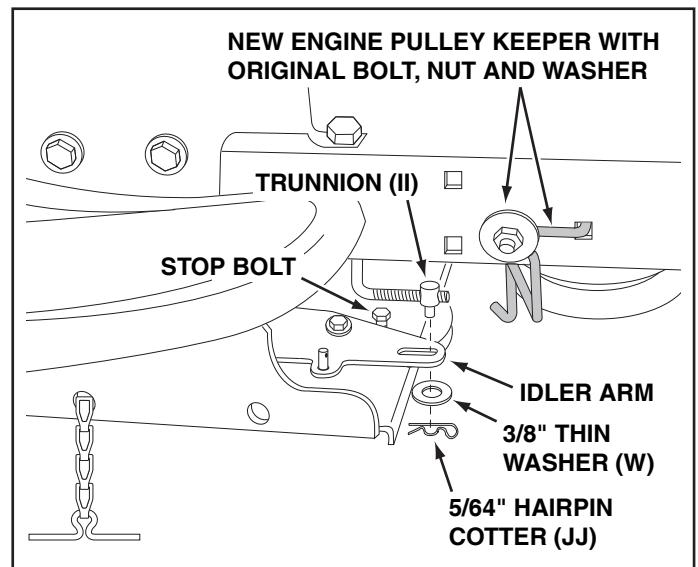

FIGURE 33 RIGHT SIDE VIEW
STEP 33: (SEE FIGURE 33)
- Pivot the upper idler arm so that it rests against the stop bolt and is pointing toward the front as shown. Screw the trunnion (II) along the threads of the engagement rod until it is aligned at the front end of the idler arm slot. Attach the trunnion (II) to the slot using the 3/8" thin washer (W) and a 5/64" hairpin cotter (JJ).